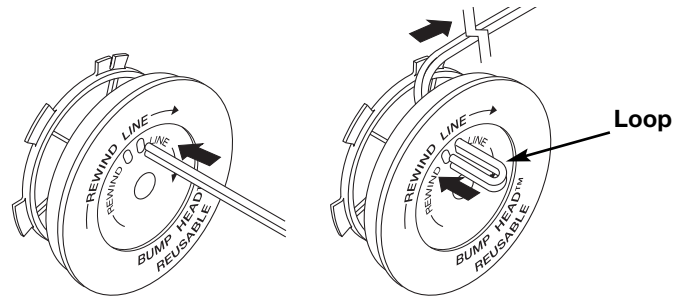

Fig. 17
8. Take approximately 10 feet (3 m) of new trimming line. Insert one end of the line through one of the two holes in the inner reel (Fig. 17). Pull the line through the inner reel until only about 4 inches is left out.
9. Insert the end of the line into the open hole in the inner reel and pull the line tight to make the loop as small as possible (Fig. 17).